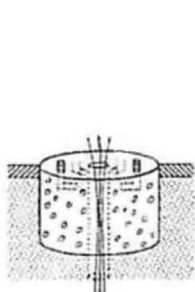

Fig. 1
2. Bolt height should be approximately 2" above the surface of the foundation. See Fig. 1